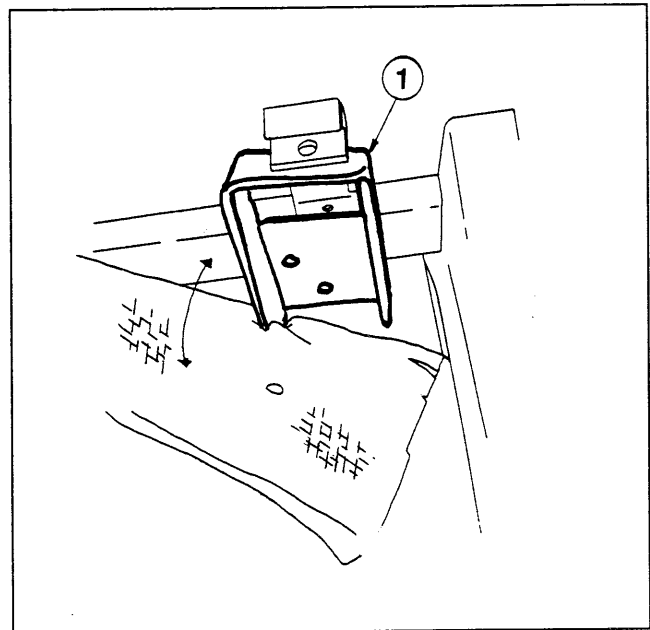

Figure 1
2. Locate the three factory cover tabs used to fasten the plastic cover to the chassis. Take one of the rear brackets (1) and position it against the bottom of the left factory cover tab, with the single bracket hole up. If there is mylar glued to the firewall where the rear brackets are placed, peel back the mylar so that the rear bracket will fit into place properly. Temporarily bolt the bracket to the tab using one of the 5/16"x1 1/2" hex bolts and hex nuts supplied (see Figure 1). Using the bracket's bottom two-hole bolt pattern as a guide, drill two 3/8"dia. holes through the 2"x1" chassis tube. LOOSELY, bolt the bracket to the chassis using the 5/16"x2" hex bolts, hex nuts, and lockwashers supplied, but do not tighten. ENSURE the bolt heads are towards the front. Remove the 5/16"x 1 1/2" hex bolt and hex nut.